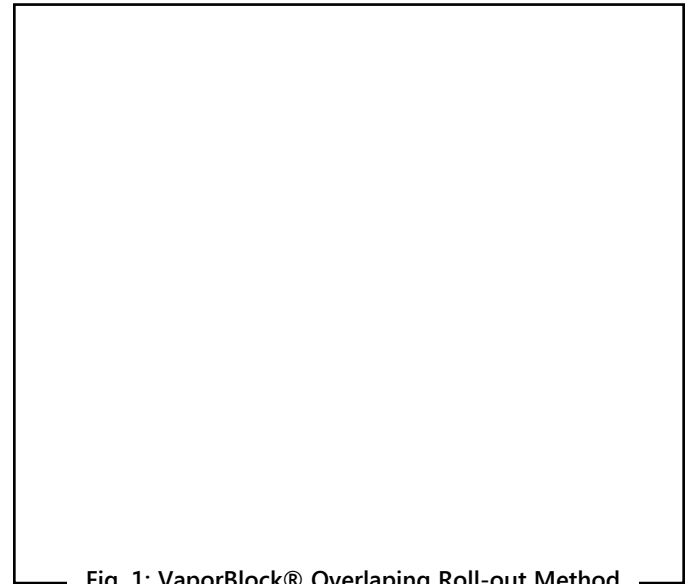

Fig. 1: VaporBlock® Overlapping Roll-out Method
- 1.2. Unroll VaporBlock® running the longest dimension parallel with the direction of the pour and pull open all folds to full width. (Fig. 1)